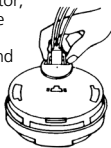
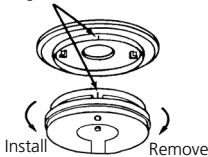

FIGURE 6
FIGURE 7
5. Plug the AC QUICK CONNECTOR into the back of the alarm (see figure 6), making sure that the locks on the connector snap into place. Then push the excess wire back into the electrical box through the hole in the center of the trim ring.
6. If you have finished all the WIRING, BATTERY INSTALLATION AND TRIM RING MOUNTING STEPS, you can install the alarm on the trim ring. Alignment marks are provided on the side of the alarm and on the trim ring (see figure 7).
7. Install the alarm on the trim ring with the indicating marks aligned and rotate the alarm in the direction of the "ON" arrow on the cover until the alarm snaps in place (see figure 7).
To replace the battery, remove the alarm from the trim ring by rotating the alarm in the direction of the "OFF" arrow on the cover (see Section 3, Figure 7) To disconnect the A.C. power harness, squeeze the locking arms on the sides of the Quick connector while pulling the connector away from the bottom of the alarm (see Section 3, Figure 6).